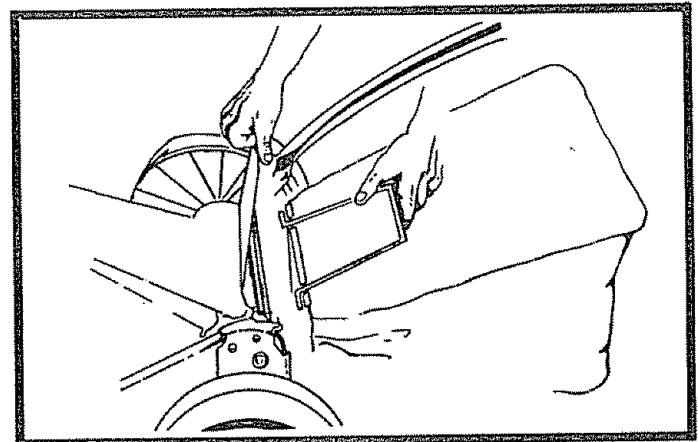

FIG. 6
- Lift up Rear Door and remove the Grass Catcher by the Handle (See Fig. 6).